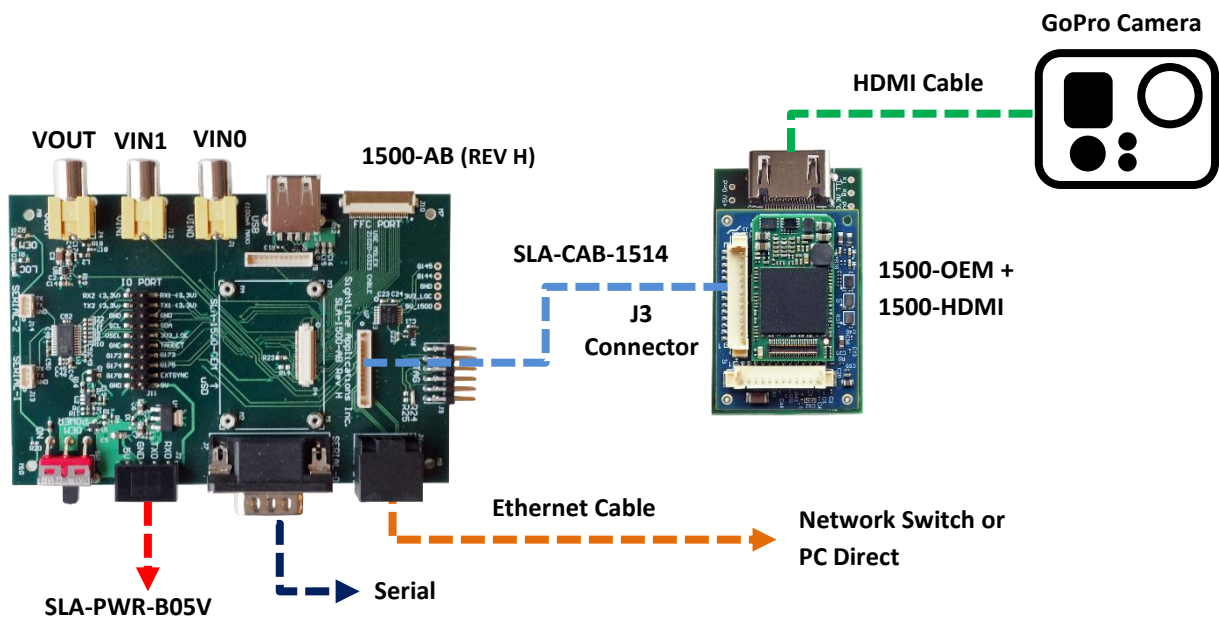

Figure 2: 1500-OEM HDMI Camera Bench Setup
4. Connect the Ethernet, serial, and power cables to the 1500-AB board. Power to the camera in Figure 2 is provided by a standard USB cable to a 5-volt USB wall adapter. Do not power the camera from a PC USB port.